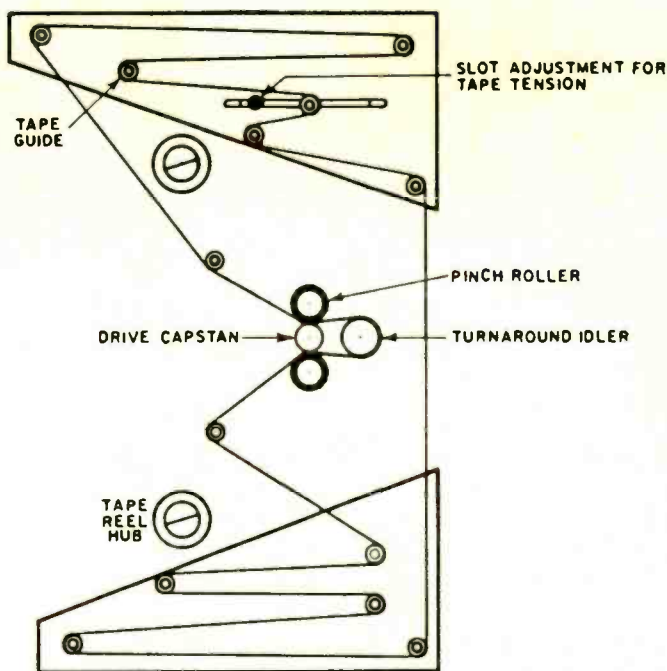

Fig. 7. Installation of a tape loop or "tail chaser."
10. *Tape-loop adapter:* Most tape transports can be readily adapted for a tape loop (or "tail chaser"). Fig. 7 shows the way this is done. The reels are removed from the transport and the tape loop adapter is installed. A section of tape is cut from the reel and spliced into a continuous loop. Threading the loop is simply a matter of placing the tape on the various idlers and adjusting the tape tension, as shown in the diagram. The data on the tape loop can now be repeated continuously for detailed analysis.